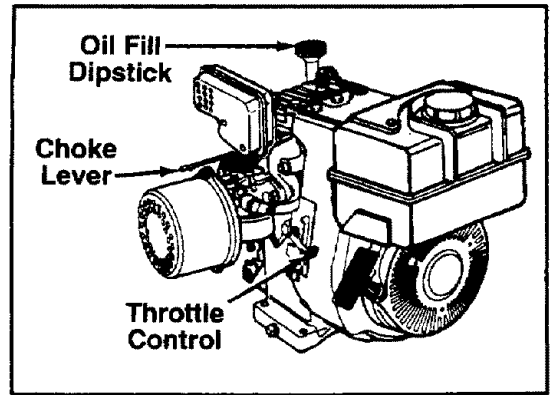

FIGURE 4.
- Move throttle control lever to OFF position. See figure 4.